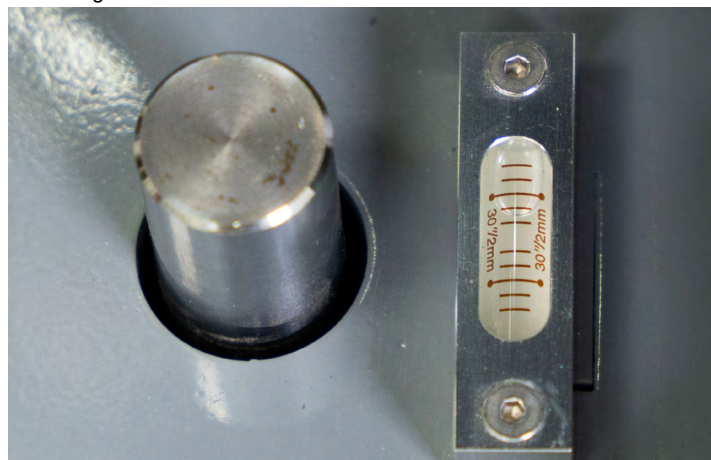

Figure 2
- b. When the bubble is toward the front of the machine (Figure 2), spin the leveling wheel Counterclockwise to move it toward the center.